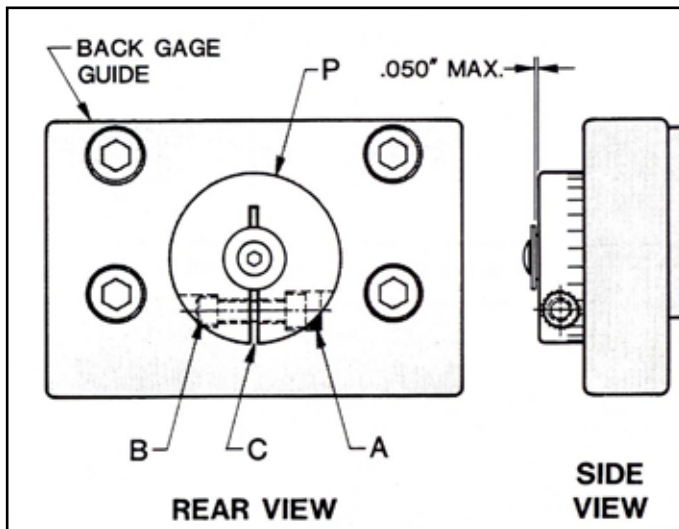

Figure 9-12 - Guide Adjustment
- a. Loosen locknut "A" and socket head cap screw "B". Figure 9-12. Adjustment can be made at either or both guides, depending upon the amount of movement required.